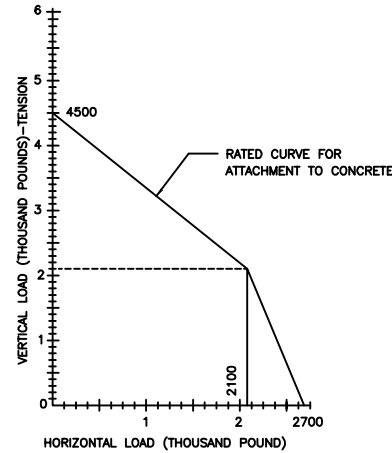

FIGURE 1
1. HORIZONTAL AND VERTICAL RATINGS OF M4SS-2E SERIES ARE SHOWN IN FIGURE 1, 2 AND 3. ANALYSIS HAVE BEEN PERFORMED IN ACCORDANCE WITH APPLICABLE CODES
- A. FOUR (4) 5/8" DIA. HILTI "KWIK-BOLT II" WEDGE ANCHORS, WITH MINIMUM 4" EMBEDMENT INTO 3000 PSI NORMAL WEIGHT CONCRETE. MINIMUM EDGE DISTANCE IS 8 1/4".